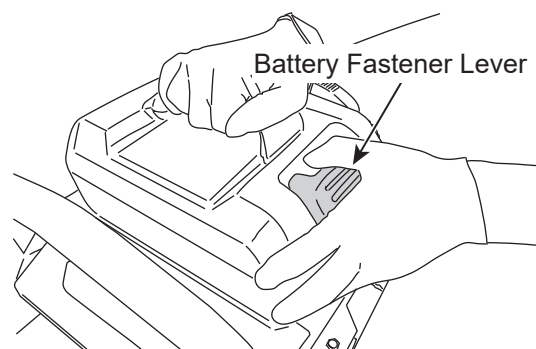

Fig.4
3. Push down the Battery Pack and hook the battery fastener to it.(Fig.4)
4. Push the battery fastener lever up and lock the Battery Pack.(Fig.4)